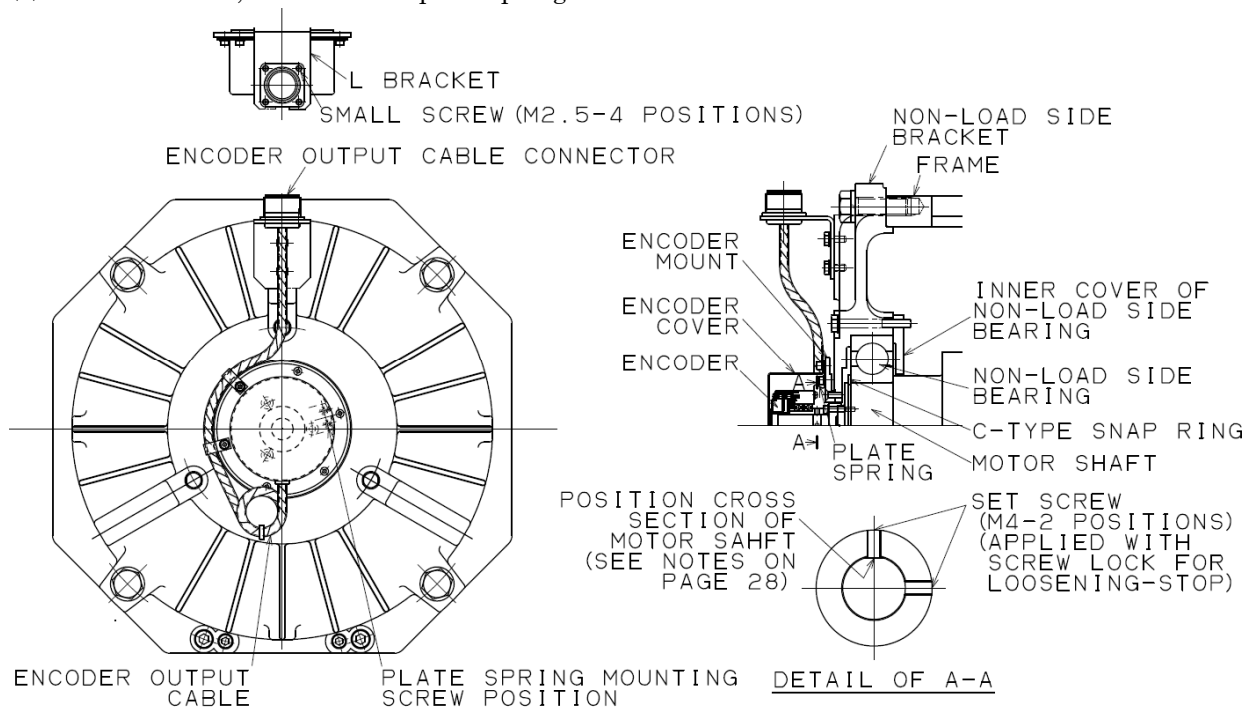
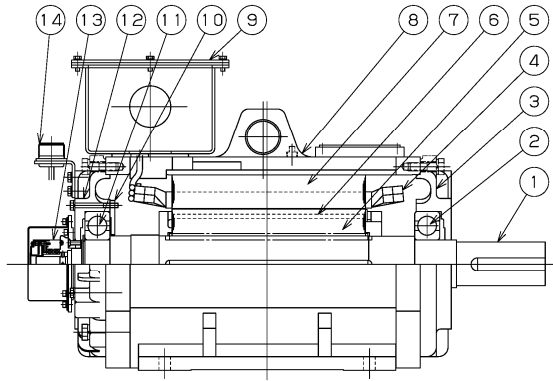

Fig. 14 Detailed view of the anti-load side encoder and bearing surround
Fig. 22 Structural sectioned drawing of EDM 22***W
(See Fig. 14 below and structural sectioned drawings (Fig. 22~Fig. 25))
- 2) Even for the cases of removing and re-mounting of encoder at the times of replacement, etc. of bearing or encoder, setscrew position for fixing the encoder rotor is determined to make that the magnetic pole position detection of the rotor of motor is same. As shown in Detail of A-A Cross Section of Fig. 14, when one of 2 positions of setscrew M4 is coincided with flat cut position of motor shaft (one position of motor shaft, where setscrew contacts, is flat surface), mount the other setscrew arranging that it surely comes to the position turned 90° to counterclockwise seen from the non-load side shaft end (position where motor shaft is not cut flatly).